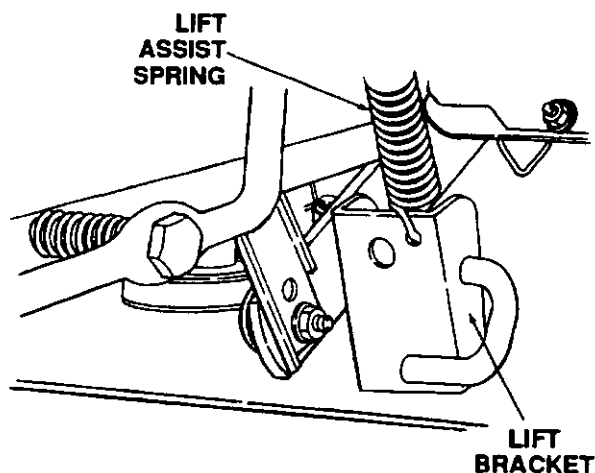

Figure 26
22. Install lower end of each spring into the hole in mower deck rear lift bracket. (Refer to Figure 26.)